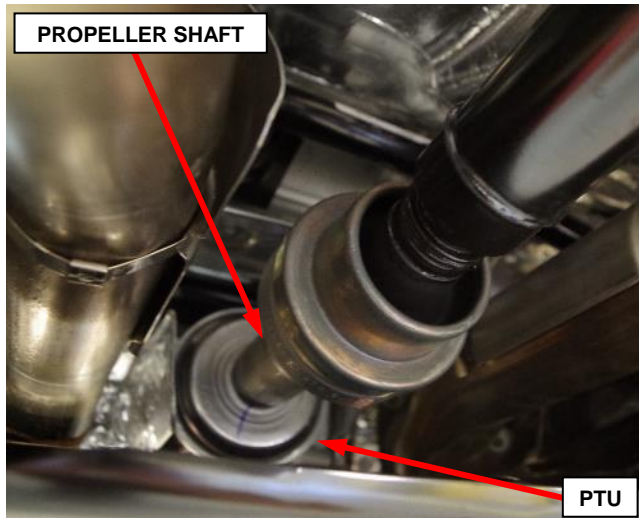

Figure 32 – Propeller Shaft at PTU
- e. **Propeller shaft removal is a two-person operation.** Remove the propeller shaft from the rear pinion flange then slide the propeller shaft off the Power Transfer Unit (PTU). Remove the propeller shaft from the vehicle. (Figure 32).